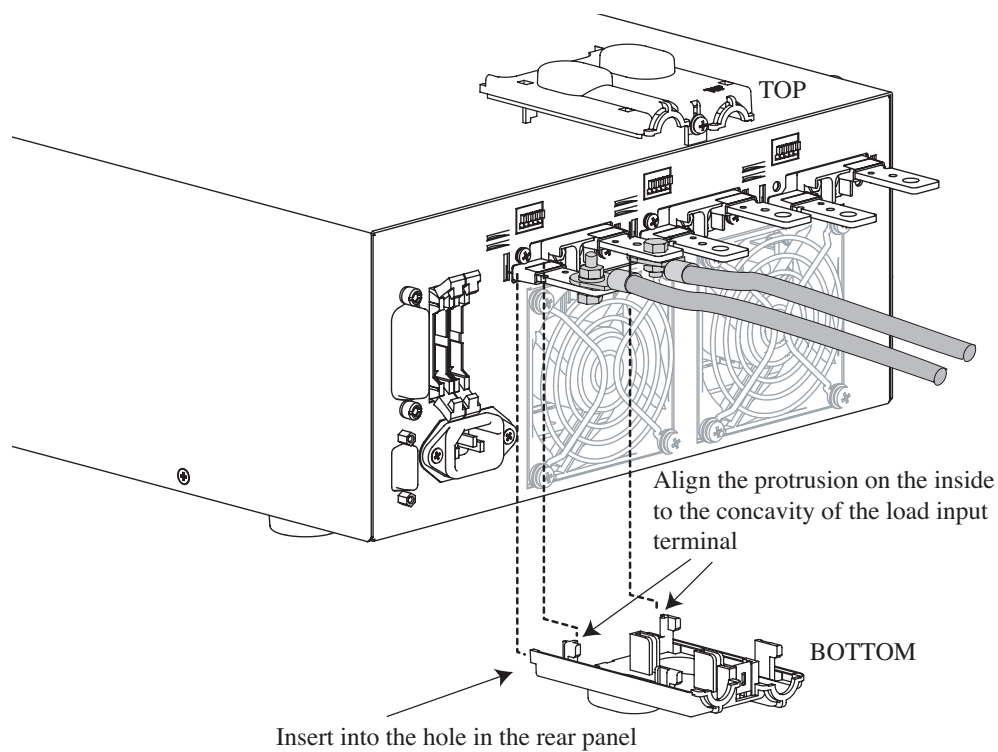
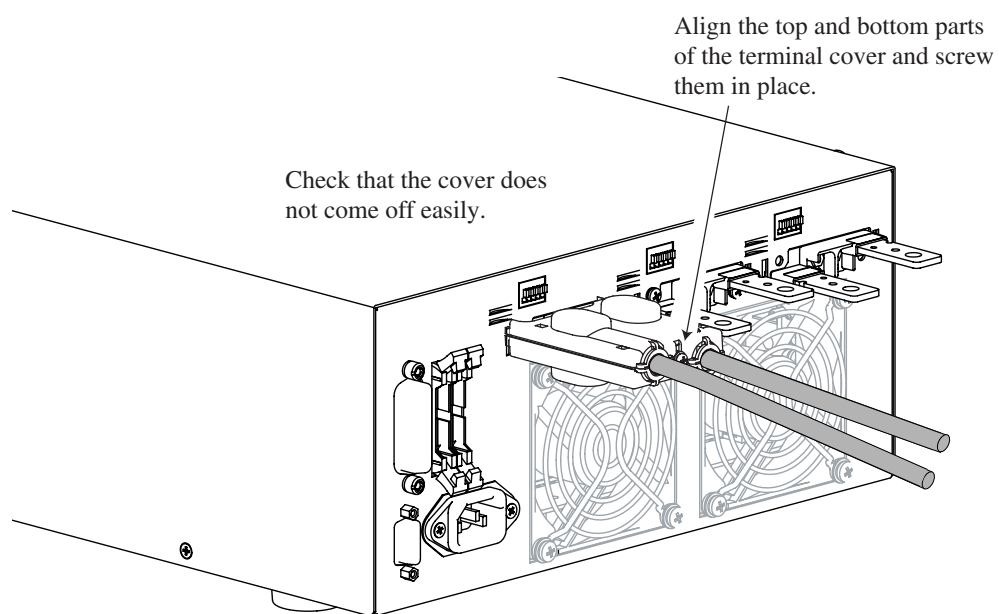

Fig. 2-13 Attachment of the load input terminal cover on the rear panel 1
Fig. 2-14 Attachment of the load input terminal cover on the rear panel 2
4. Attach the load input terminal cover on the rear panel. For details on how to use the terminal cover, see Fig. 2-13 and Fig. 2-14.